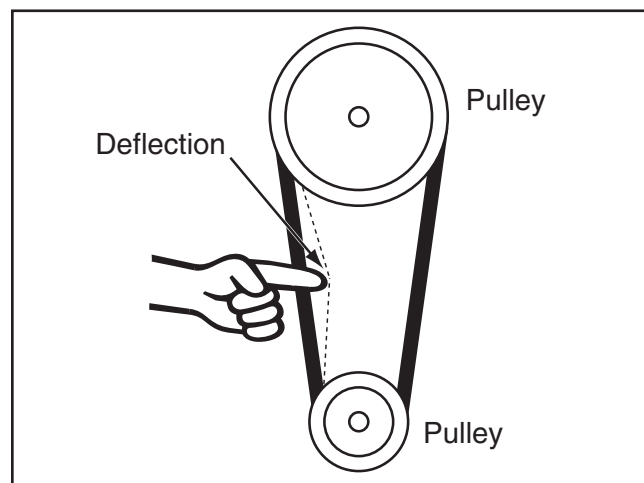

Figure 48. Checking for correct V-belt tension.
4. Push the center of each V-belt as illustrated in **Figure 48**, using moderate force. When tensioned correctly, the deflection should be about $\frac{3}{4}$ ".